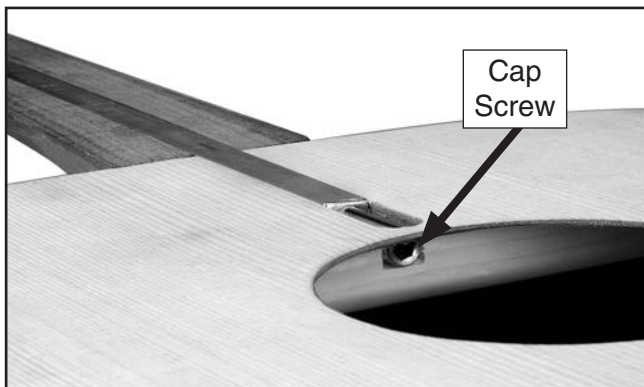

Figure 6. Truss rod installed in neck and body assembly.
1. Test fit the truss rod into the truss rod channel, as shown in **Figure 6**.
5. Install the truss rod in the truss rod channel so the truss rod cap screw head can be seen through the sound hole (see **Figure 6**).